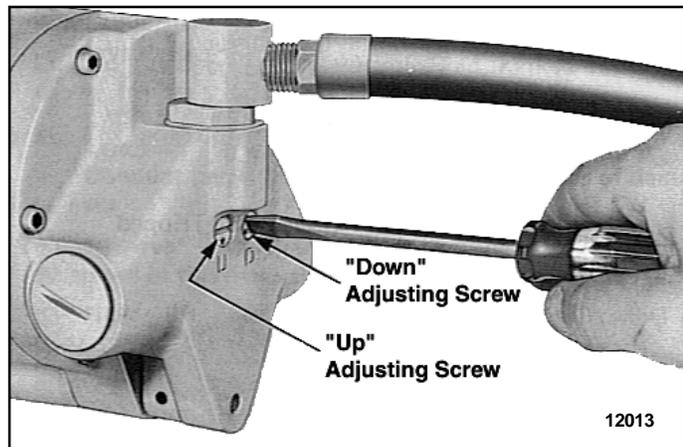

Figure 2-4. Hoisting and Lowering Speed Adjustment.
- b. To adjust the hoisting or lowering speed, turn appropriate regulator_ screw (Figure 2-4) in either direction a little at a time while operating hoist under load.